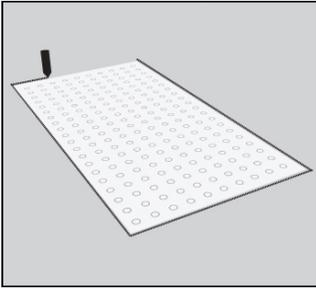

Figure 1: Layout material and mark outline with supplied marker.
- Surface:** TopMark® can be applied on asphalt, or non-bituminous portland cement concrete surfaces. Surface must be free of dirt, dust, deicing agents, chemicals and significant oily substances. Concrete surfaces must have surface porosity. To test for porosity sprinkle a few drops of water on to the surface. If the concrete does not readily absorb the water drops, the surface is not sufficiently porous and you should contact your Flint Trading representative for additional instructions on how to prepare the surface. Do not apply on top of previous markings, or coatings. **CAUTION:** For applications on asphalt; imprinted, grooved, or tined surfaces; coarse, exposed aggregate; or over joints or saw cuts, contact tech support at Flint Trading Inc at (336)475-6600 for additional instructions.
- Lay out:** Prior to starting the application, place all tools and materials where they are going to be needed in the application process. Lay out the domed sheets on to the surface and make any necessary cuts using a utility knife, or heavy duty scissors, at this time. Using the marker supplied with the sealer/bonder paste kit mark the outline of the material on the surface. (See Figure1).